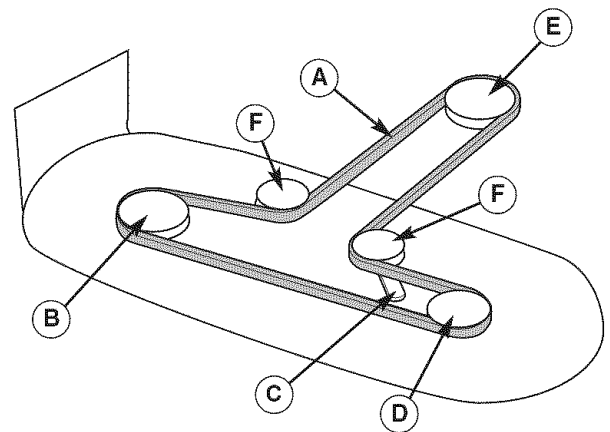

Figure 38. PTO Belt Routing
2. Use the idler pulley arm (C, Figure 38) to release belt tension and remove the mower drive belt (A) from the PTO pulley (E).
4. Install the new belt (A) as shown in Figure 38.